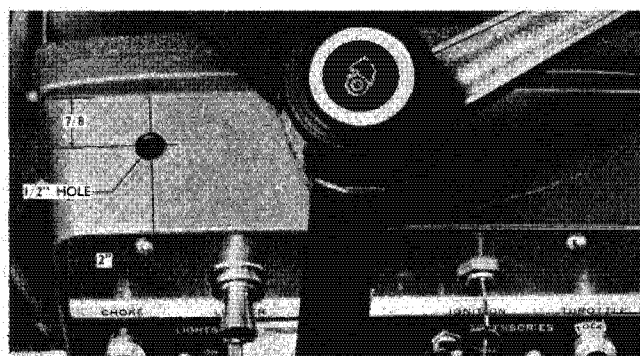

FIGURE 1
2. Drill a $\frac{1}{2}$ " hole in the dash panel casting at approximately the location shown in figure 1. If a